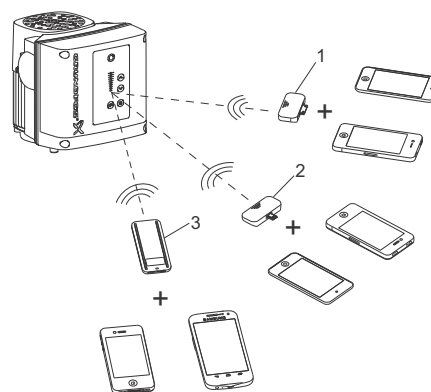

Fig. 11 Grundfos GO communicating with the pump via radio or infrared connection (IR)
Grundfos GO offers the following mobile interfaces (MI). See fig. 11.